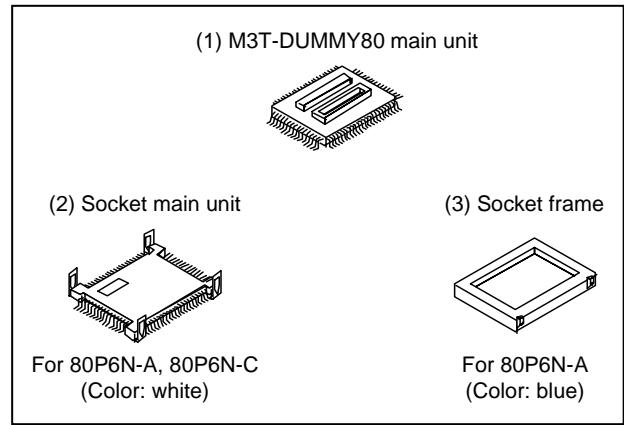

Figure 1 Package components
2. Package Components (See Figure 1)